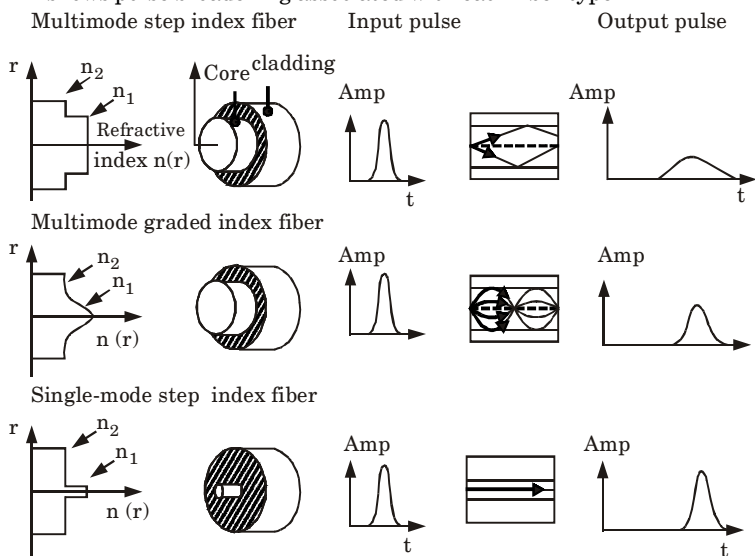

Fig. 2.8.2. An illustration showing the pulse broadening due to inter modal dispersion in each fiber type.
- Fig. 2.8.2 shows the three common optical fiber structures, multimode step index, multimode graded index and single mode step index and also shows pulse broadening associated with each fiber type.